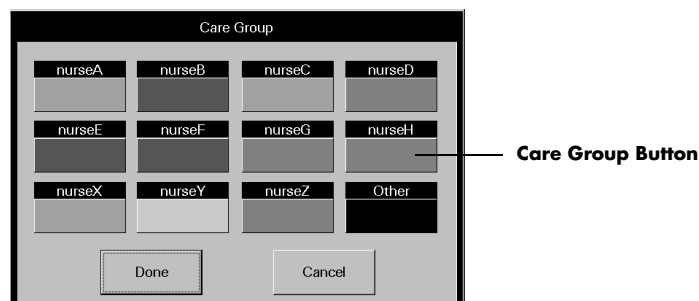

FIGURE 5-11 Care Group Dialog Box
1. From the **Demographics** tab, select the **Care Group** sidebar button. The **Care Group** dialog box (shown in FIGURE 5-11) is displayed.